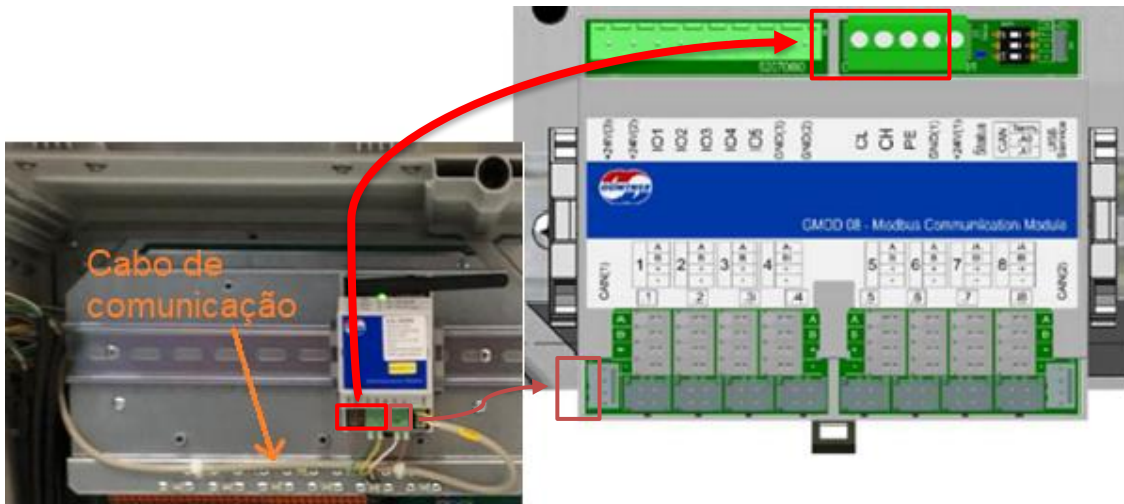

Figure 18: Connections required for the external GMMnext.
- The KK terminal connected to the communication module shown in Figure 18 must have the CAN-H and CAN-L wires cut off and then it must be connected to GMOD 08 at the lower left corner.
- To transmit the communication and power to the external display, remove the cables highlighted in red in Figure 18 from the communication module, and connect them to the upper terminal of GMOD 08.